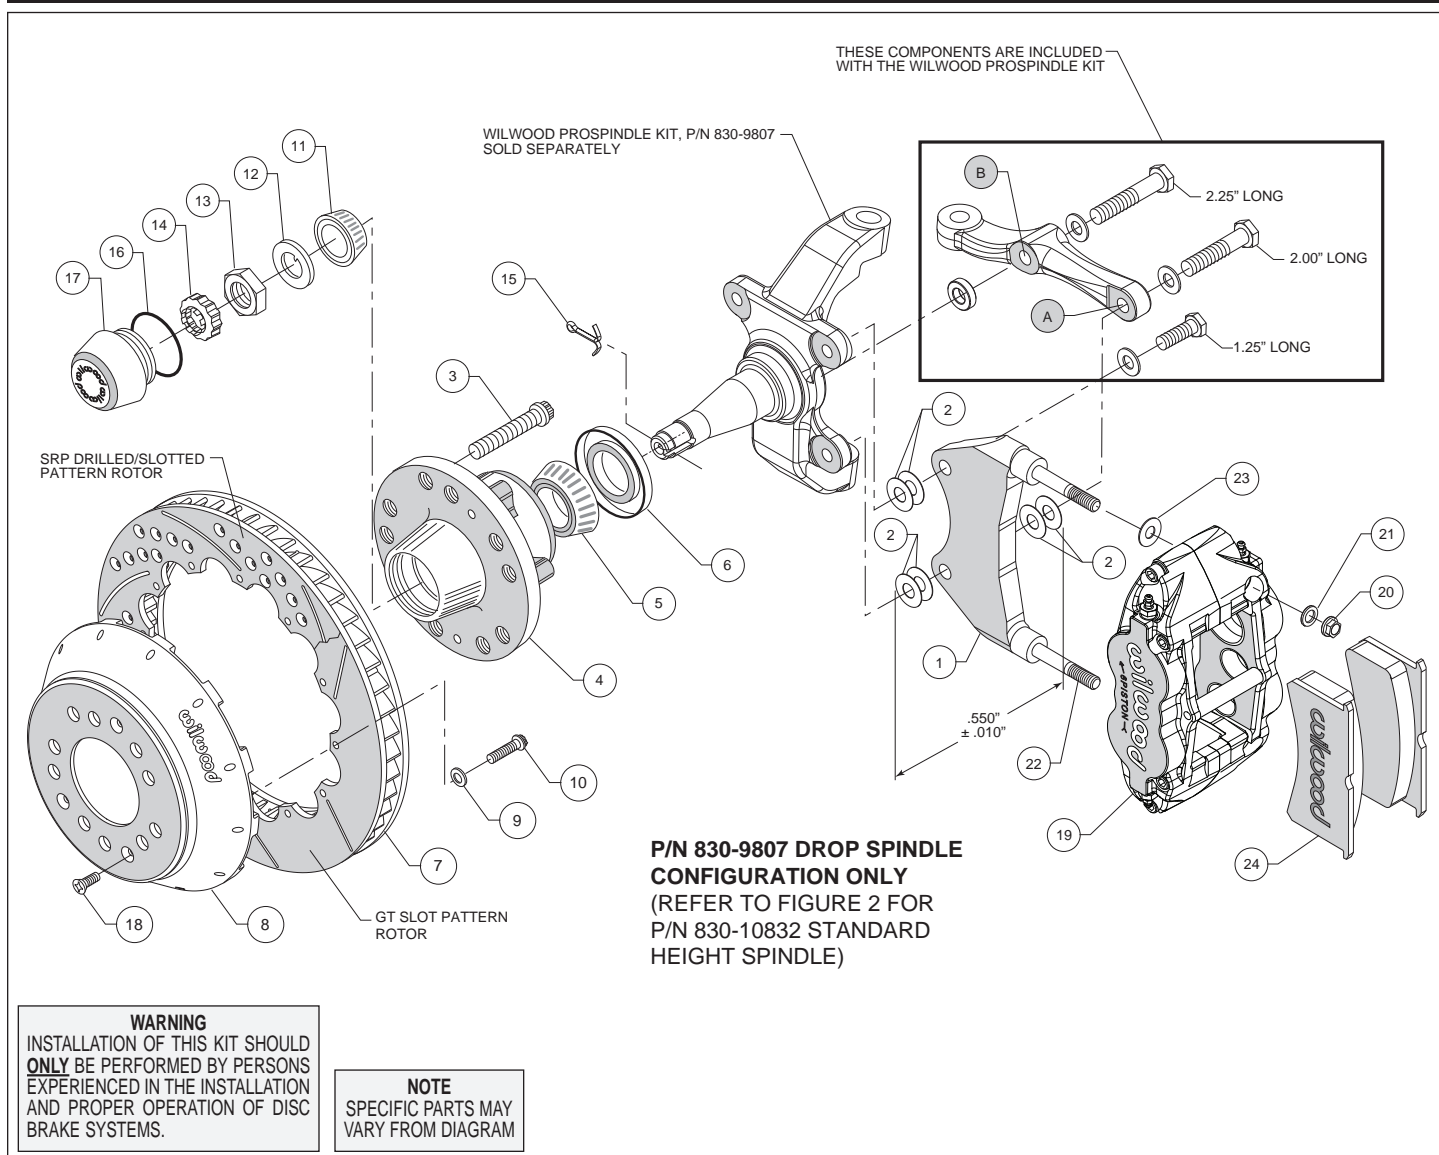
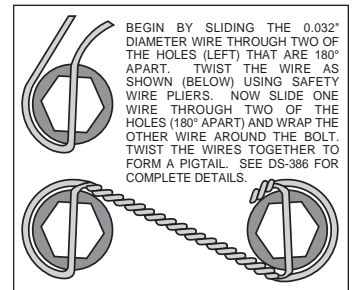

Figure 1. Installation Configuration For Drop Spindle, P/N 830-9807
Figure 4. Safety Wire Diagram
Assembly Instructions (numbers in parenthesis refer to the parts list and Figures 1 or 2 on the preceding pages):
- NOTE:** Each Wilwood ProSpindle kit includes bolts, washers, and a spacer to mount the steering arm and caliper bracket. The various bolts are identified by length in the following instructions and in Figures 1 and 2.
- Orient the bracket as shown in Figure 1 and Photo 1. Install at top spindle hole using 1.25" long bolt and .06" thick washer (from ProSpindle kit), and two .016" thick shims (2) between the bracket and spindle, Figure 1.
- Orient the steering arm, and identify the hole marked 'A', as shown in Figure 1. Install at bottom spindle hole using 2.00" long bolt and .06" thick washer (from ProSpindle kit), two .016" thick shims (2) between the bracket and steering arm, and another two .016" thick shims (2) between the bracket and spindle, Figure 1. The bracket is located between the steering arm and spindle. **NOTE:** The bracket and shim washers must add up to a total thickness of .550" \pm .010", Figure 1.
- Finish attaching the steering arm through the hole marked 'B', as shown in Figure 1. Install using 2.25" long bolt, .06" thick washer, and .25" thick spacer (all from ProSpindle kit), Figure 1.
- Pack the large inner bearing cone (5) with high temperature disc brake bearing grease (available from your local auto parts store) and install into the backside of the hub (4), Photo 4.
- Install the grease seal (6) by pressing into the backside of the hub (4), Photo 4.
- Orient the rotor (7) and the hat (8) as shown in Figures 1 or 2, and Photo 5. Attach rotor to hat using bolts (10) and washers (9). Using an alternating sequence, apply red *Loctite*® 271 to the threads, and torque to 155 **in-lbs.** For an added measure of security, the bolts may be safety wired using standard 0.032 inch diameter stainless steel safety wire as shown in Figure 4. Refer to Wilwood's data sheet DS-386 for complete safety wire installation instructions.
- Pack the small outer bearing cone (11) with high temperature disc brake bearing grease and install into hub (4). Slide the hub assembly onto the spindle. Secure using spindle washer (12) and spindle nut (13), Photo 6. Bearing adjustment: Tighten the nut while turning the hub. When there is a slight bind on the bearings, they are seated correctly. Back the nut off about 1/6 to 1/4 of a turn, or sufficiently to allow .001" to .007" end play. **WARNING:** Failure to back off adjusting nut could cause bearing to run hot and be damaged, which could cause the wheel to lock or come off. Install spindle nut retainer (14) and cotter pin (15).
- Screw dust cap (17) into hub (4), Photo 7. Friction created by the o-ring (16) on the dust cap keeps it from unscrewing.
- Slide the hat/rotor assembly (7/8) onto the hub (4) taking care to align the small countersunk holes in the hat with the small threaded holes in the hub. **NOTE:** The hat must fit flush against the hub face or excessive rotor run out may result. Install three flat head screws (18) through the small holes in the hat (8), Photo 7, and torque to 85 **in-lb.**
- NOTE:** This kit contains distinct right and left hand calipers that must be mounted in a specific direction, as described below. Lubricate the caliper mounting studs (22) with lightweight oil. Initially place one .035" thick shim (23) on each stud as shown in Figure 1 or 2, and Photo 8. Mount the caliper (19) onto the bracket (1) using lock nuts (20) and washers (21), Figure 1 or 2. Ensure that the caliper is mounted so that the largest pistons are at the rotor exit end of the caliper, in relation to the direction of rotor rotation. Temporarily tighten the lock nuts and view the rotor through the top opening of the caliper. The rotor should be centered in the caliper, Photo 9. If not, proceed as follows:
- For the lower bracket mount bolt, if a shim was added between the bracket and spindle, then a shim must be removed between the steering arm and bracket, such that the total thickness of bracket and shims remain equal to $.550 \pm .010$ ", Figure 1.